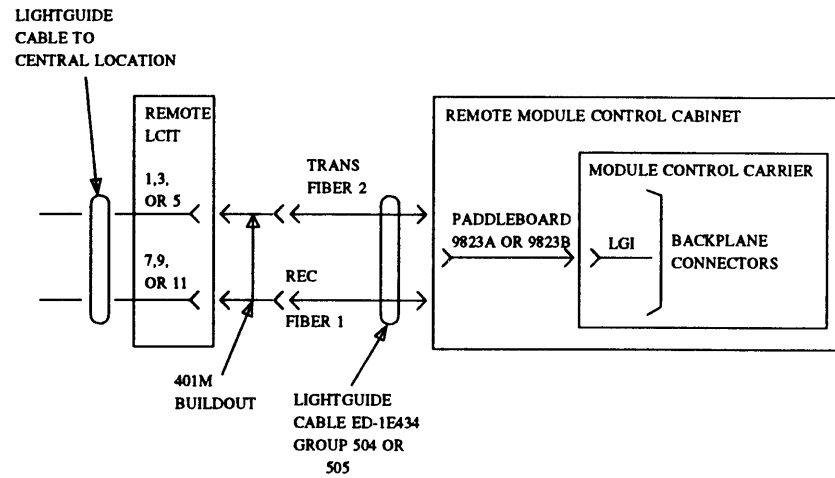

Figure 26-11. Remote TMS Fiber-Link Connections for Unduplicated MC (Phase 3)
4. Connect the fiber-optic cables as shown in figures 26-11 and 26-12.